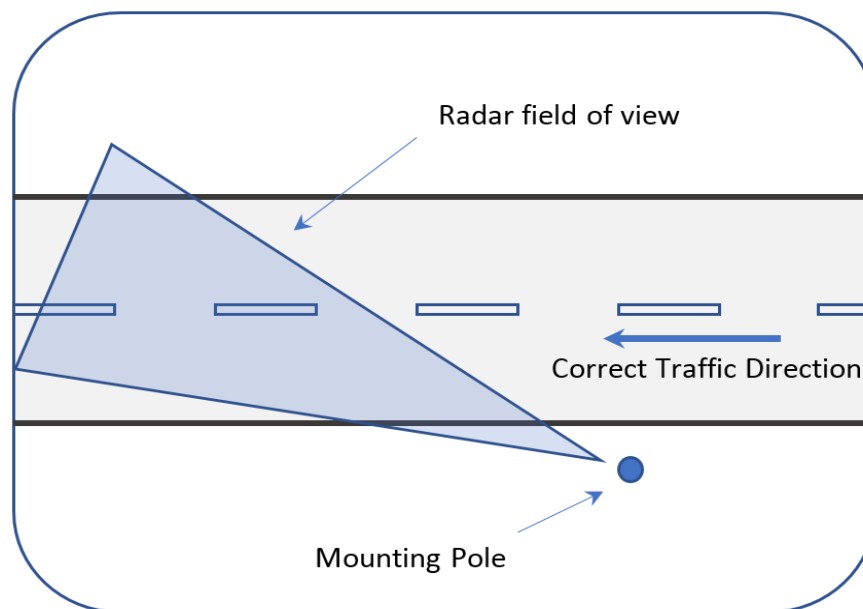
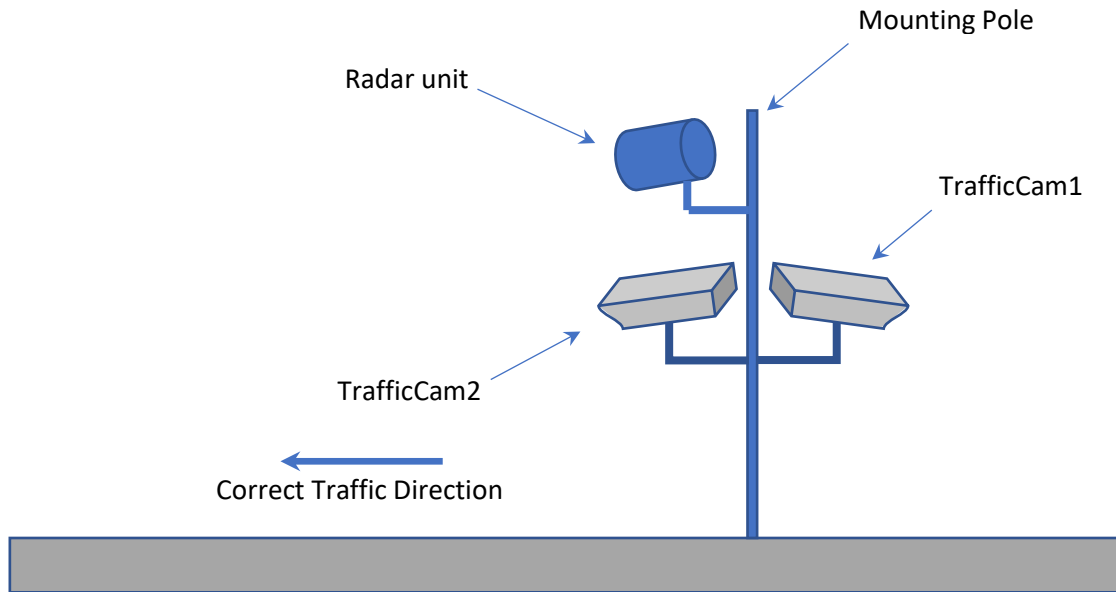

Figure 3-1: View from above the road showing a single pole location.
Figure 3-2: View of pole from ground level
Setting up a typical wrong-way driver system involves configuring both the WWD580 module along with the associated Radar and TrafficCam units. A typical installation includes two (2) TrafficCams and a radar unit mounted to the same pole adjacent to the roadway. The radar unit is mounted to detect wrong-way driving vehicles as early as possible. One of the cameras is configured to monitor vehicles travelling toward the radar unit, while the other is pointed in the opposite direction (see Figure 3-1 and Figure 3-2 below). A radar unit is mounted along with 2 TrafficCam units. The radar unit is pointing in the direction for earliest detection of wrong way drivers.
In Figure 3-2 the radar unit and TrafficCam2 are aligned with the direction of travel, and TrafficCam1 is directed against the direction of travel.